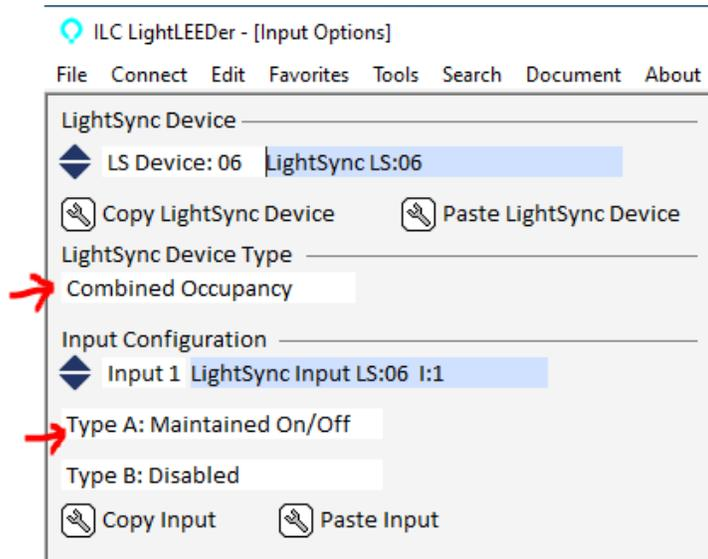

Figure 7 –Combined Occupancy Inputs
- H. Next you will need to choose a LightSync device address to be used for the combined inputs, each panel can support One(1) combined input virtual device. If the BAS or DDC system is using a BACnet connection to the ILC network with an Advanced BACnet Gateway, we suggest using a LS address below LS:10 for the occupancy combined input device (one of the first 16 LS devices). This virtual combined occupancy device will not be a physical module to set an address at but will use the programmed combined mapping configuration to track the physical inputs to be combined as shown in Figure 7.